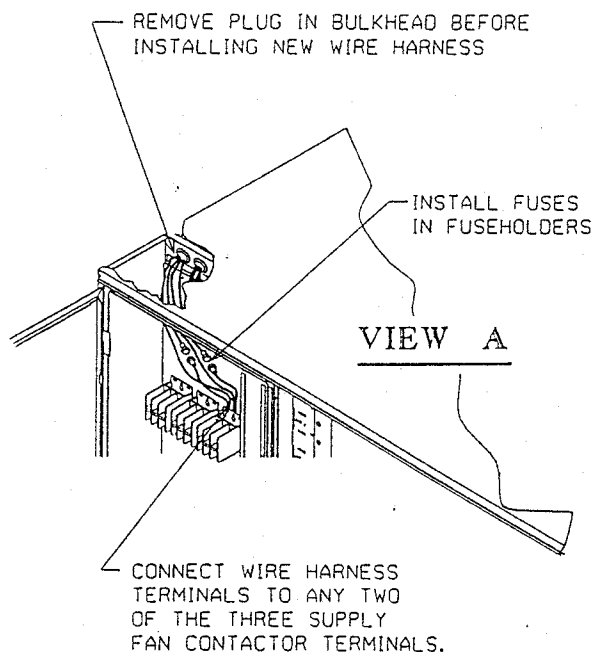

FIGURE 2
2. CONNECT NEW WIRE HARNESS IN CONTROL BOX BACK (VIEW A) AND ROUTE ABOVE ECONOMIZER. (See Fig. 2)
REMOVE SMALL RECTANGULAR COVER BESIDE CONTROL CONNECTIONS ON ECONOMIZER AND DISCARD. (FIG. 2).